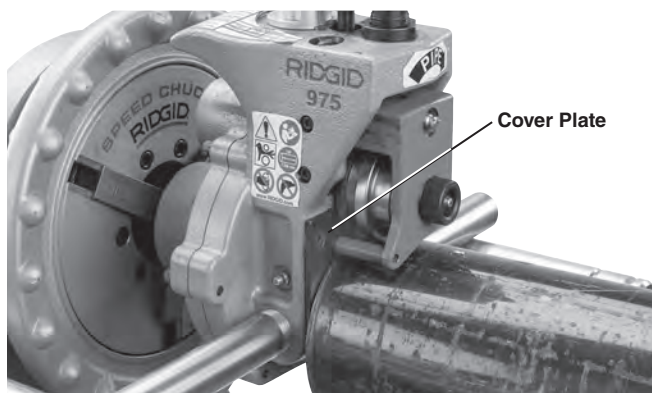

Figure 8 – Placing Pipe Over Driveshaft and Flush To Cover Plate
6. Adjust pipe and pipe stands so that the end of the pipe is flush to the roll groover cover plate and that the inside of the pipe contacts the top of the drive shaft (Figure 8). The centerline of the pipe and the centerline of the drive shaft should be parallel to one another. One way to do this is to level both the pipe and the power drive/threading machine.